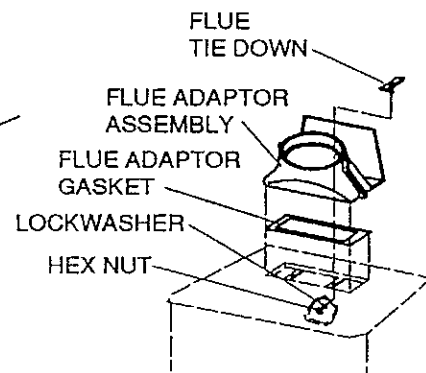

Fig. 3
1. Place flue gasket on flue adapter and install assembly into flue as shown in figure 3.